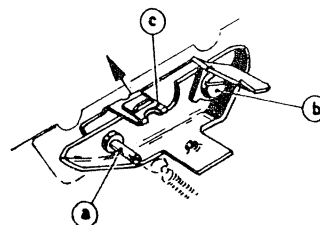

Fig. 9
6.4 In case flutter attains a higher level, modify the pressure on the sound head by slightly loosening screws (a) and (b) and pressing pressure device (c) against the sound head (fig. 9).